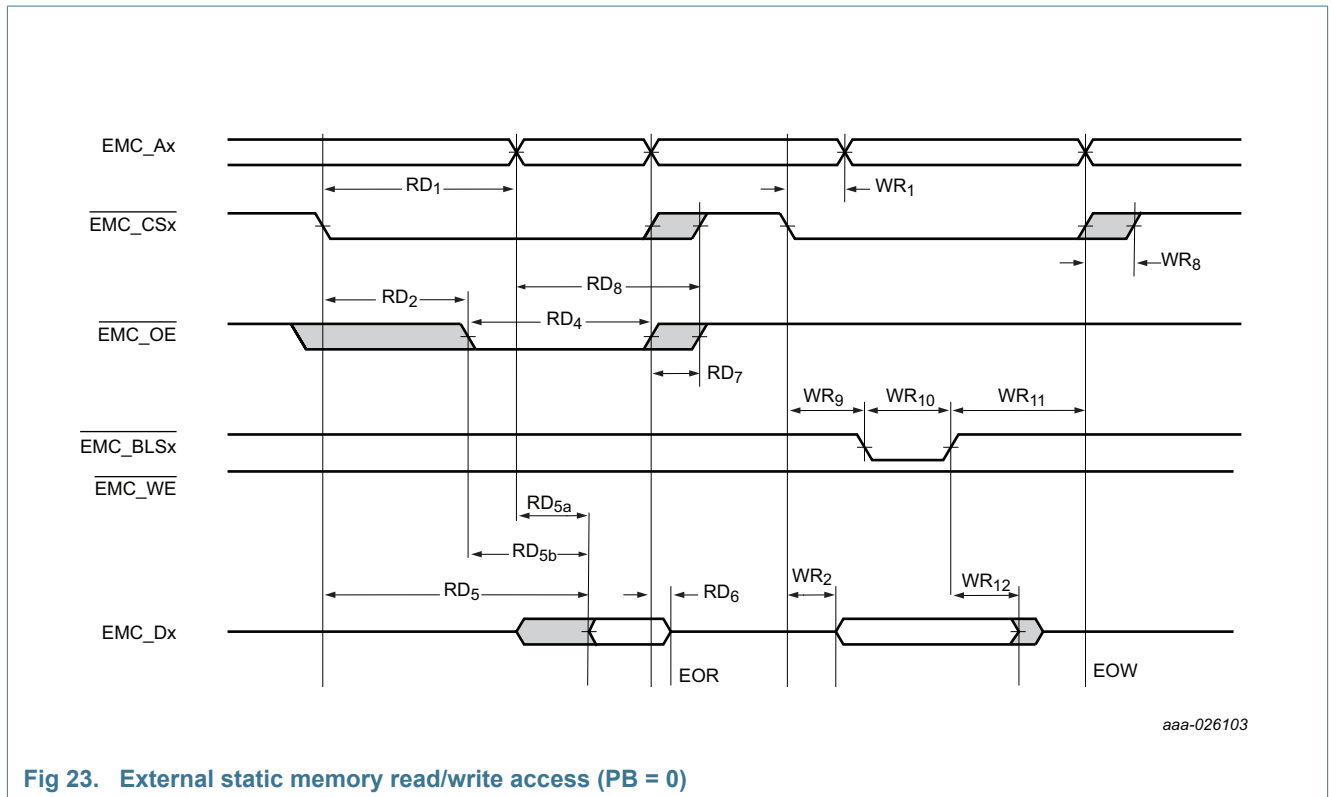

Fig 23. External static memory read/write access (PB = 0)
- [1] Parameters are shown as RD_n or WD_n in Figure 23 as indicated in the Conditions column.
[1] Parameters are shown as RD_n or WD_n in Figure 23 as indicated in the Conditions column.